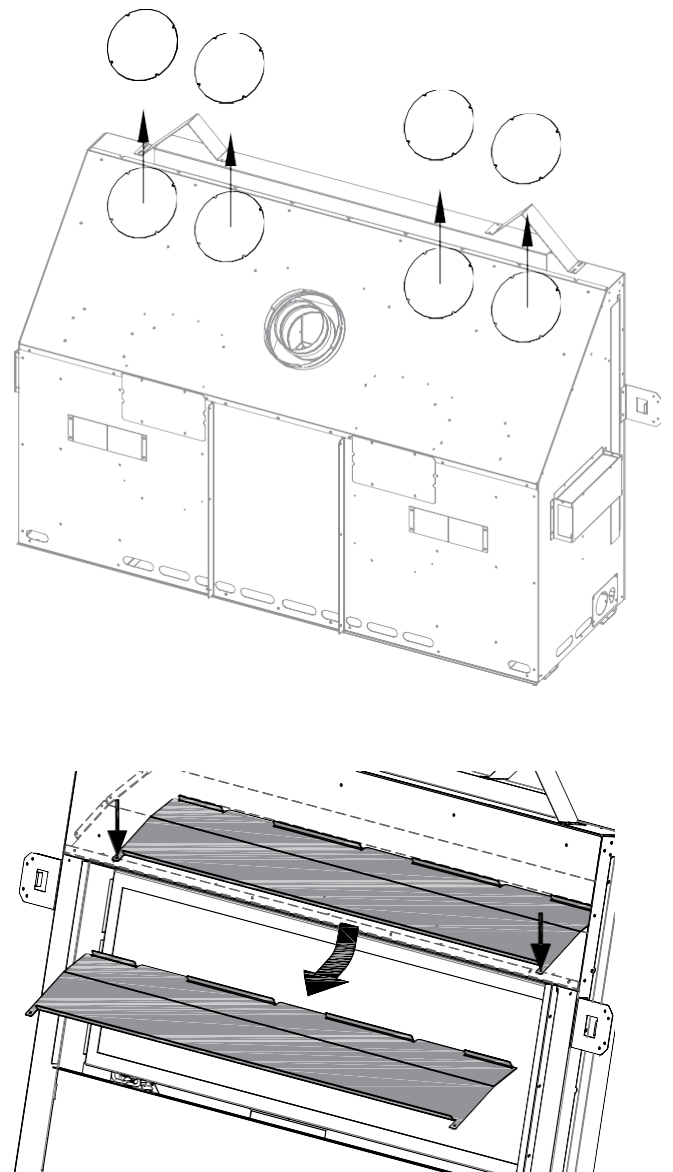

Figure 3.12, Cover Plates and Convection Baffle Removal
1. Remove the (4) circle cover plates, (4) screws each. See Figure 3.12.
2. Remove the convection baffle from the appliance. The baffle is secured by (2) screws right behind the upper edge of the fireplace opening. See Figure 3.12. Recycle this panel as it is no longer needed.